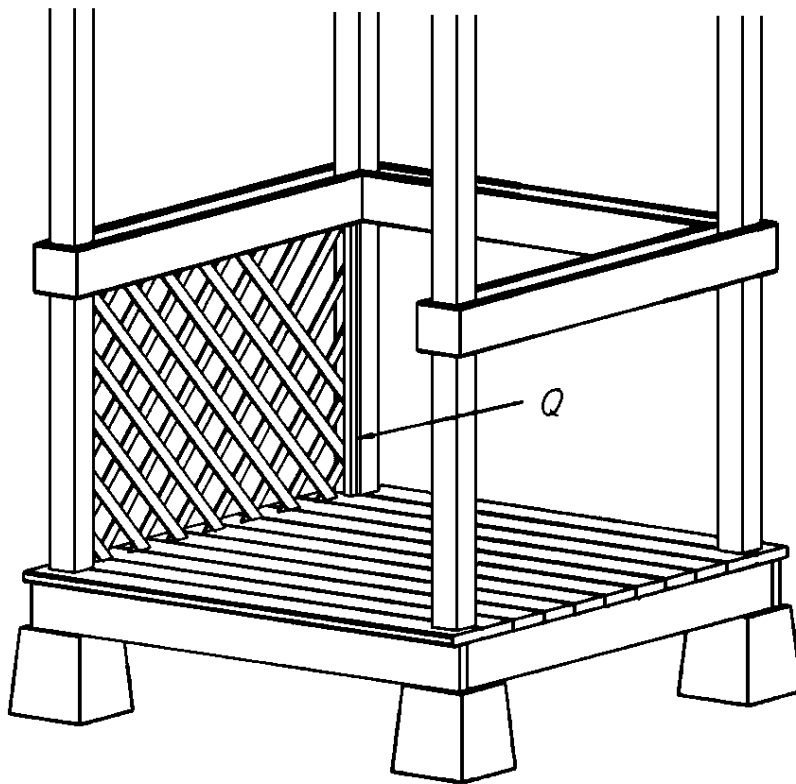

Figure 14
1. Cut 12 Vertical Supports (Q) from 1 x 1 pine, each measuring 32 inches.
2. Cut six Horizontal Supports (R) from 1 x 1 pine, each measuring 48 inches. Attach one of the Vertical supports (Q) under the planter to the inside of one Corner Post (D), 3/4 inch from the edge, as shown in Figure 14. Apply glue to the meeting surfaces, and nail through the Vertical support (Q) into the face of the Corner Post (D), using 1-1/4" finish nails spaced every 4 inches.
3. Repeat Step 2 five items to attach the remaining Vertical Supports (Q) to the remaining three Corner Posts (D).